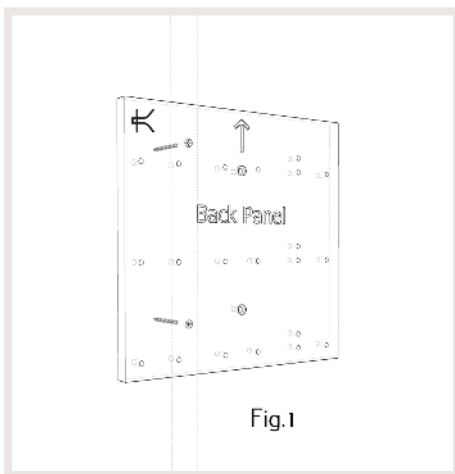

Fig.1
2. Use stud-finder to locate wood stud(s) and mark center of stud(s). \*Fig1